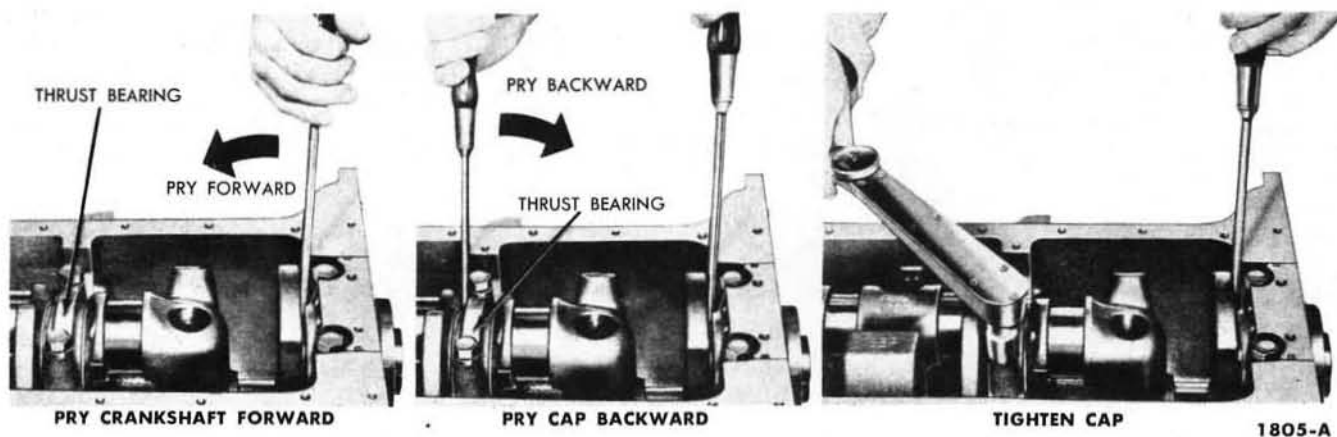

FIG. 37—Thrust Bearing Alignment
4. Install the thrust bearing cap with the bolts finger tight, then pry the crankshaft forward against the thrust surface of the upper half of the bearing (Fig. 37). Hold the crankshaft forward and pry the thrust bearing cap to the rear (Fig. 37). This will align the thrust surfaces of both halves of the bearing. Retain the for-
ward pressure on the crankshaft and tighten the cap bolts to 95-105 foot-pounds torque (Fig. 37).